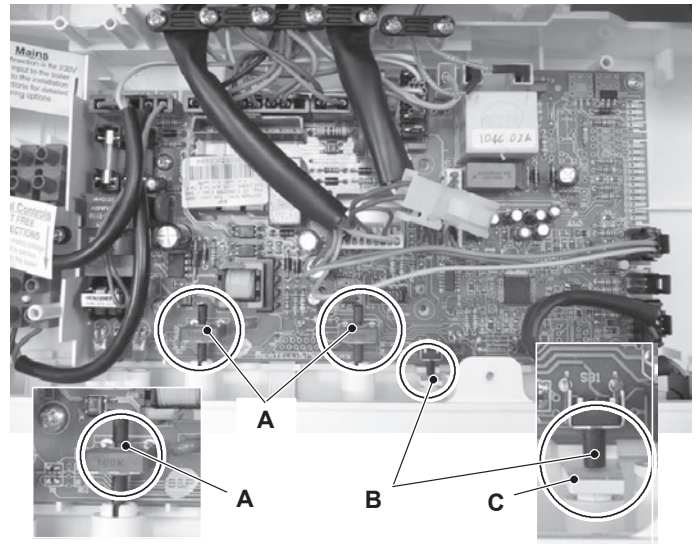

Figure 8.26
- 8 Insert the spindles in the control panel knobs until the notch A (Figure 8.26) reaches the potentiometer edge. It is not necessary to force them in the knob.
- 9 While tightening the screws that fix the Electronic control/ignition p.c.b. on the control panel, keep the p.c.b. towards the control panel fascia making sure of the contact between the boiler reset button B and the tab C (Figure 8.26).